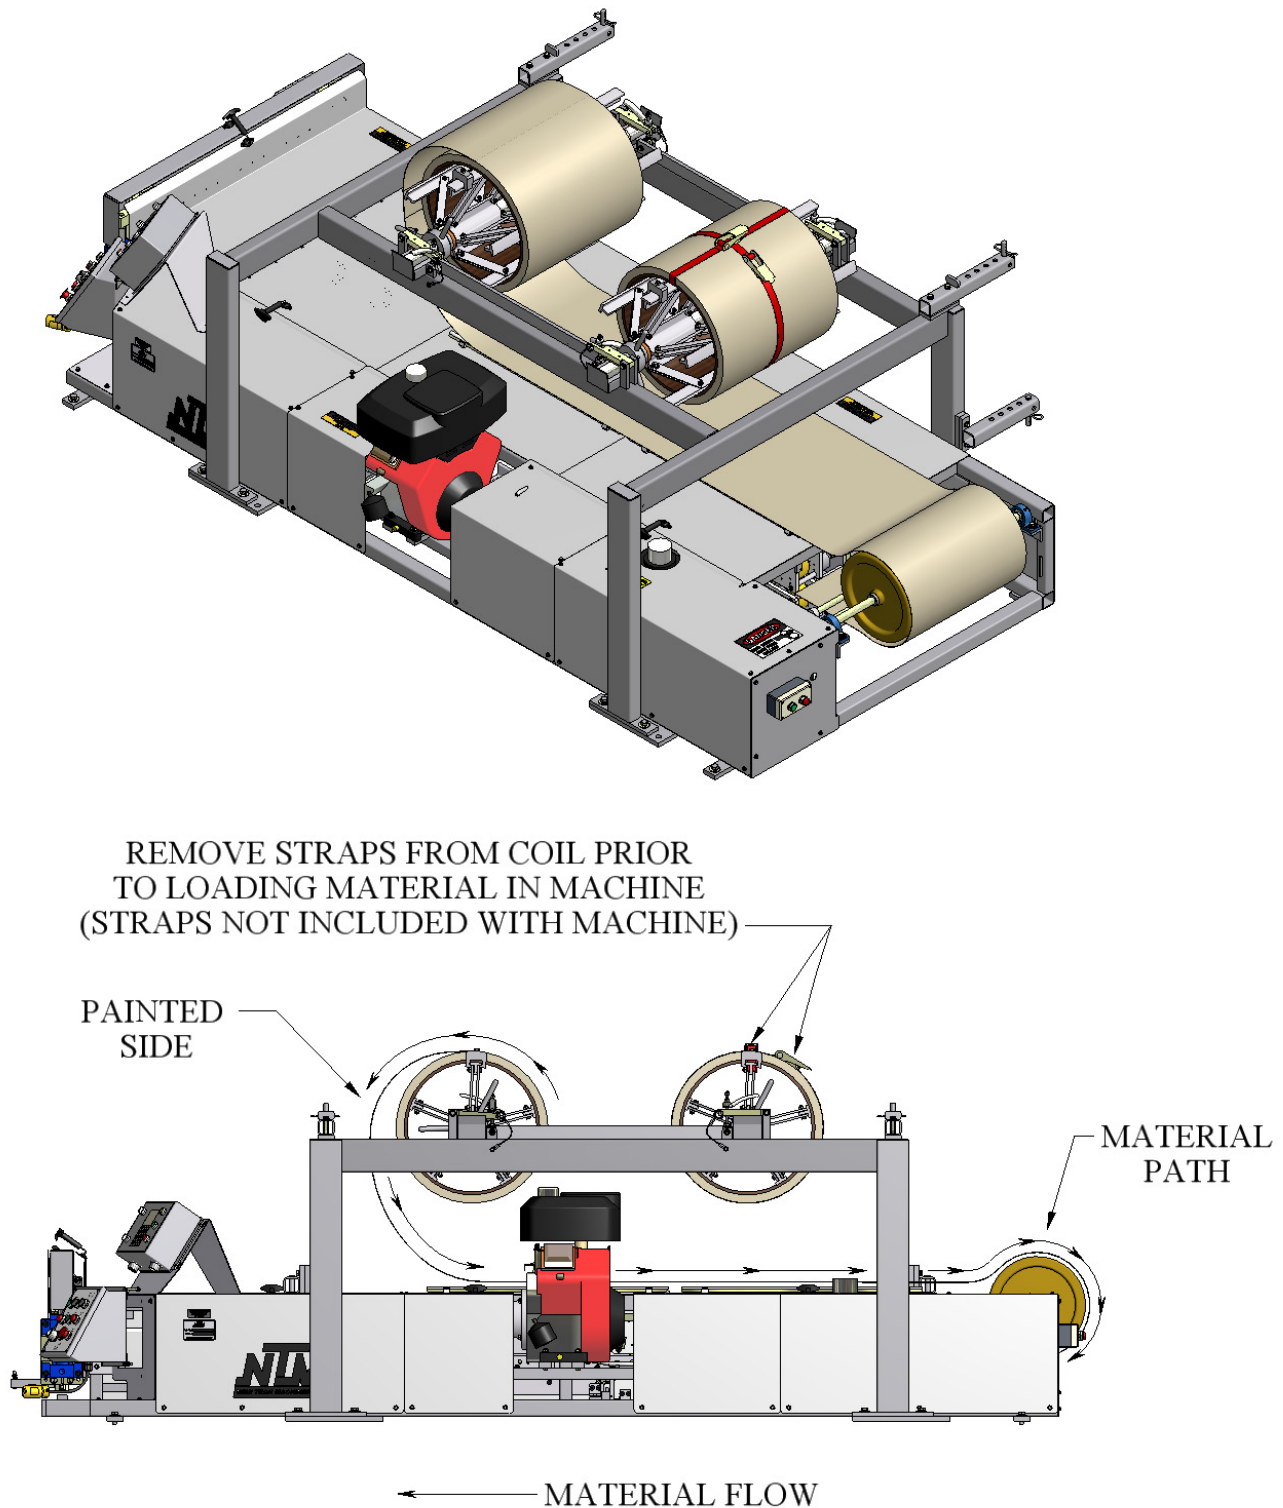

Figure 11: Material Routing
2. Slide the Expandable Arbor into the center of the coil making sure the threaded nut is on the right and the tail of the coil is over the top and pointed toward the exit end of the machine. See Figure 11
2. Using an approved lifting device, lift the reeled coil into the cradles on the reel stand making sure that the tail of the coil is in the correct position (Figure 11) then remove the lifting device.